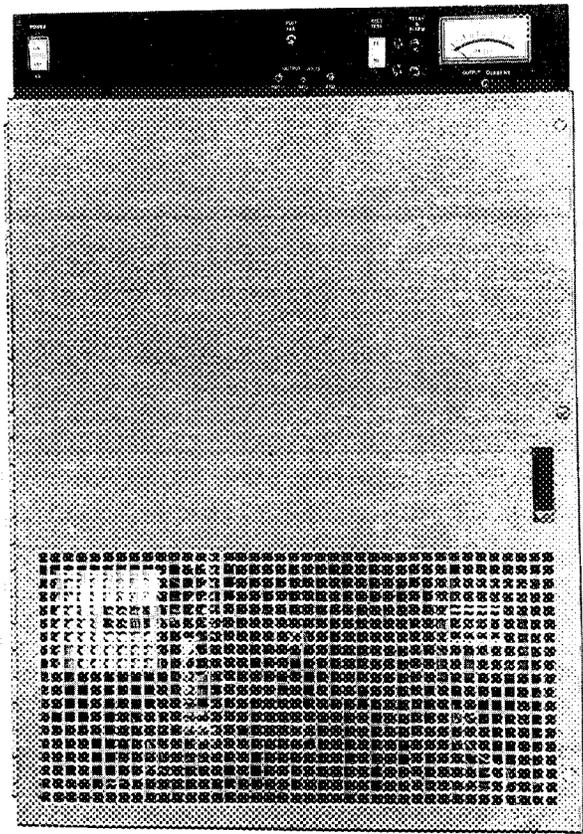

Fig. 1—J87436A/J87437A Rectifier — Front View
2.01 The framework for the J87436A and J87437A rectifier (Fig. 1 and 2) mounts on a 23-inch relay rack or in a cabinet or frame with a similar mounting arrangement. The rectifiers have a hinged front door and a recessed control panel above the door. The door and cabinet are painted white and the control panel is black. Multiple units can be stacked two per rack. The rectifiers are 30.9 inches high, 4.84 inches deep from front to mounting surface, and 11.84 inches deep from front to rear. The J87436A rectifier weighs approximately 290 pounds. The J87437A rectifier weighs approximately 390 pounds.